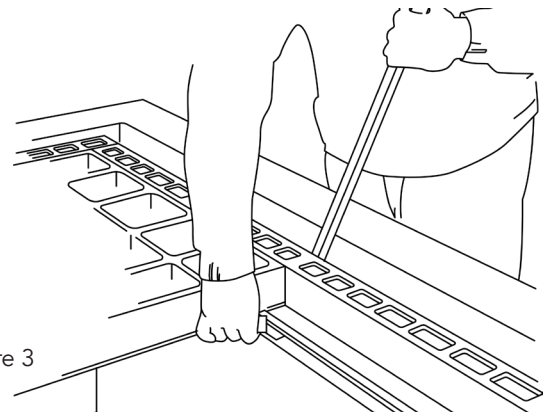

Figure 3
- As covers are placed into position, check the side frames and pack if necessary. (Figure 3)